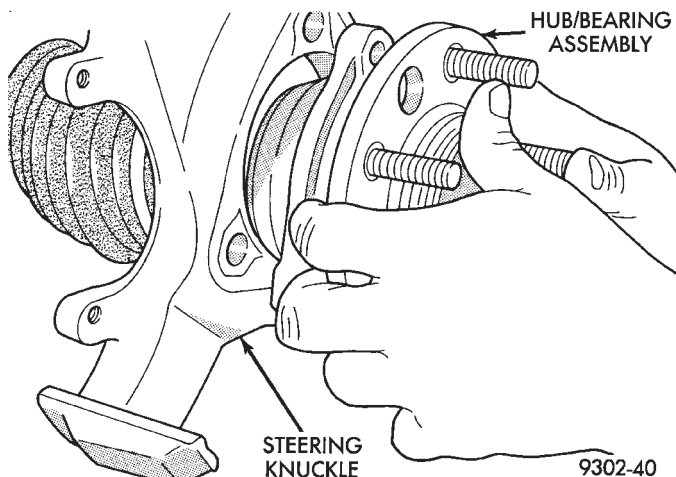
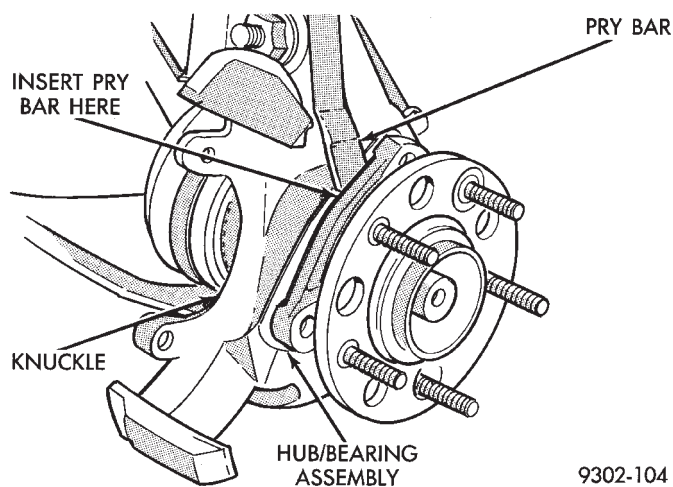

Fig. 58 Hub And Bearing Removal And Installation
Fig. 59 Prying Hub And Bearing Assembly From Steering Knuckle
(7) Remove hub and bearing assembly from steering knuckle, by sliding it straight out of steering knuckle and off end of stub axle (Fig. 58). If hub and bearing assembly will not slide out of knuckle. Insert a pry bar between hub and bearing assembly and steering knuckle (Fig. 59) and gently pry hub and bearing from knuckle. If stub shaft is frozen to hub and bearing assembly tap end of stub shaft with soft face hammer to free it from hub and bearing spline.